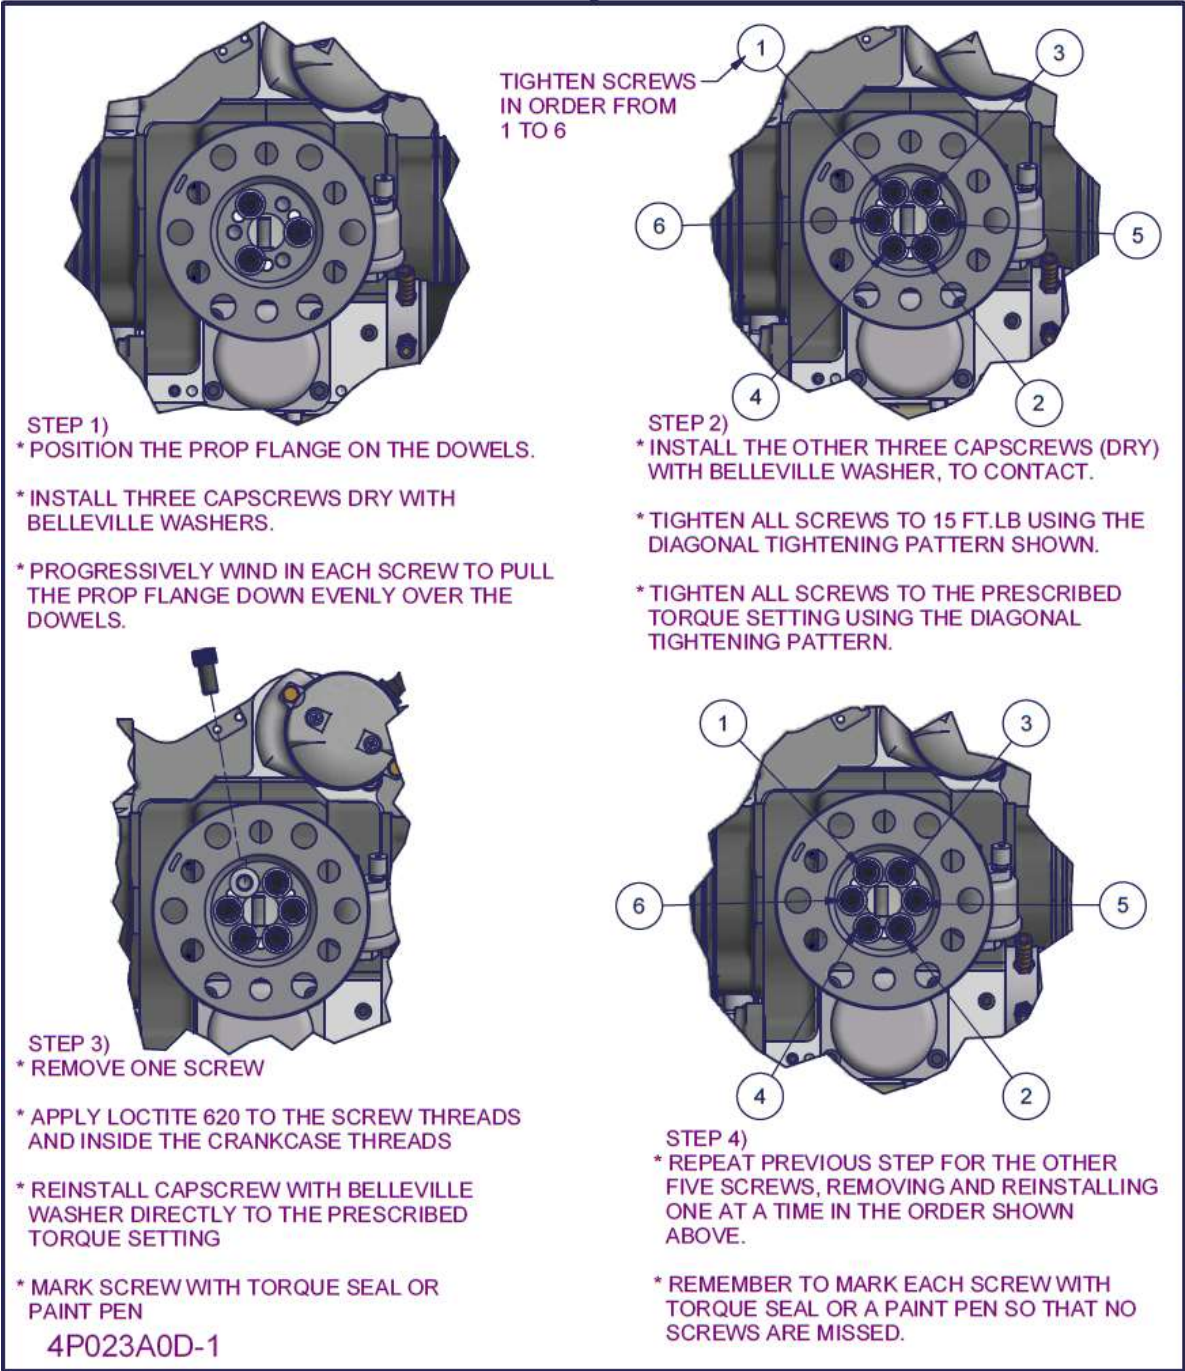

Figure 203 – Propeller flange installation method
- Refer to Figure 203 along with the following instructions for the propeller flange installation
- Remove, apply Loctite 620 and reinstall the other five screws **ONE AT A TIME** using the same technique in the order shown in Figure 203.